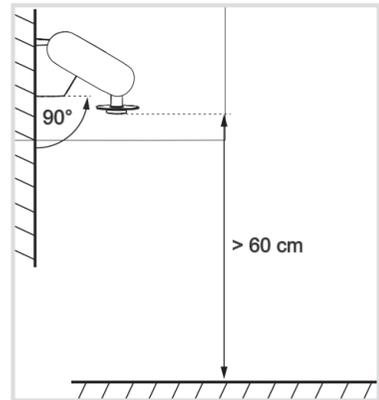
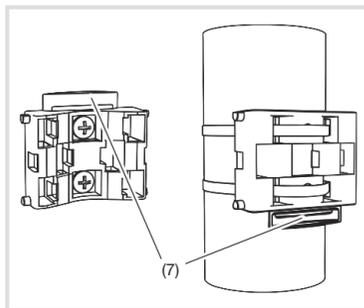

Figure 2
Figure 5: Wall fixing (left) or mast fixing (right)
- Install on vertical walls (figure 2) or on a mast (figure 5, right)